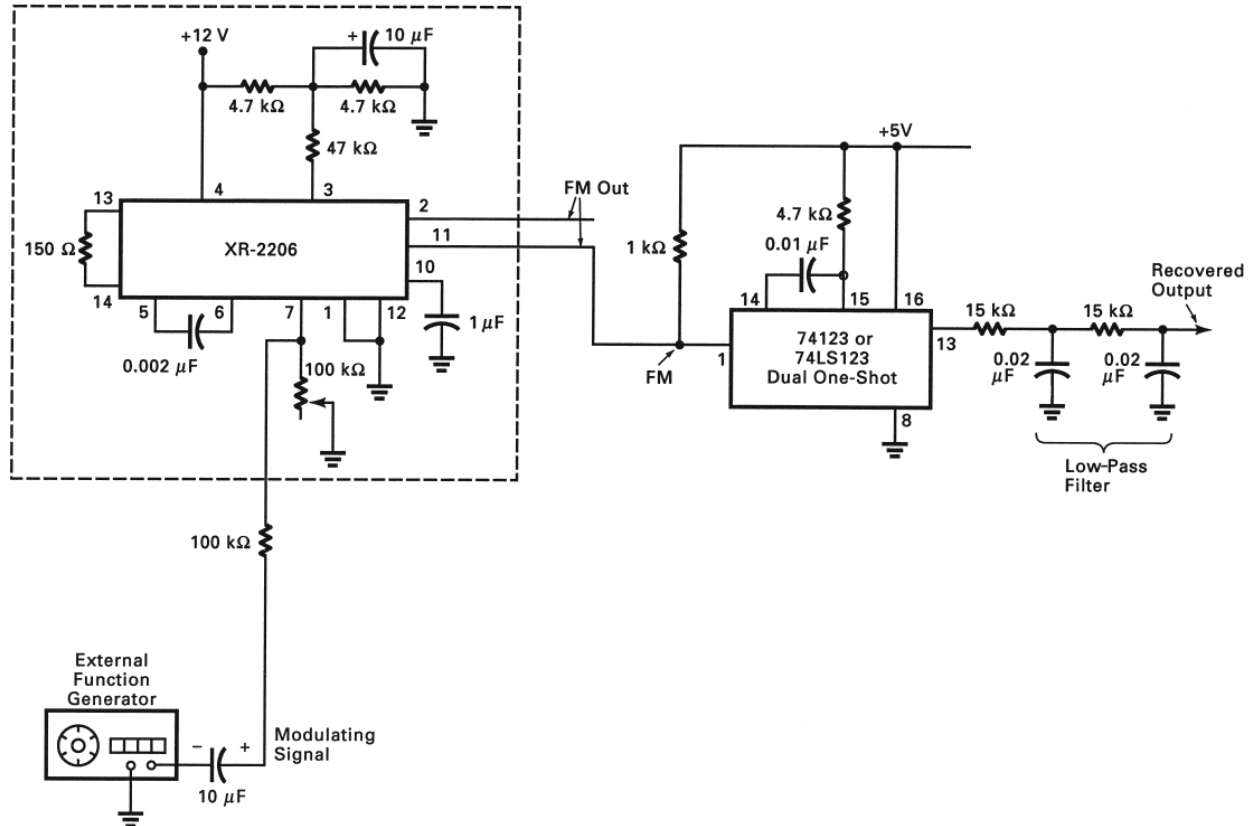

Fig. 6-5 Pulse-averaging discriminator or demodulator.
1. Construct the experimental circuit shown in Fig. 6-5. The output from the 2206 function generator is taken from pin 11; it is a 5-V square wave compatible with the TTL logic circuitry in the 74123 one-shot. The signal is also frequency-modulated and follows exactly the sine-wave output that appears at pin 2 on the 2206.